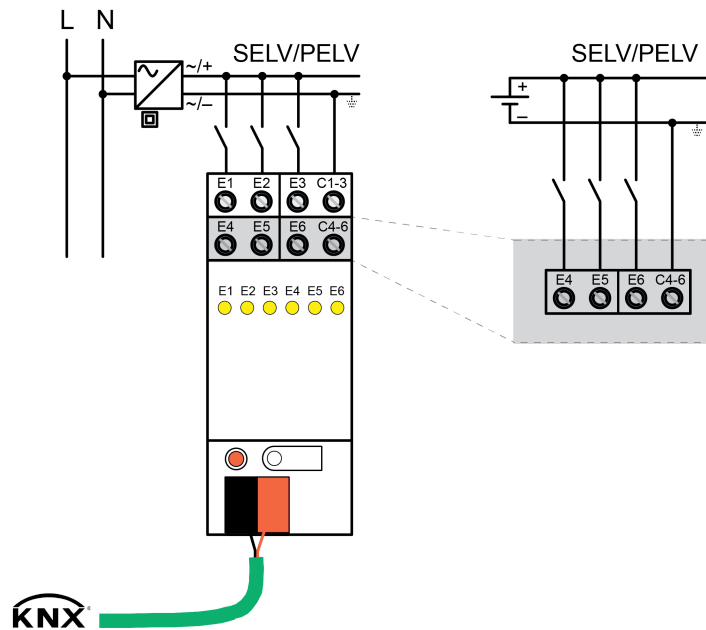

Figure 3: Connecting SELV/PELV circuits
- Connect SELV/PELV-supplied circuits as shown in the connection example (Figure 3)Connecting . Comply with the polarity.